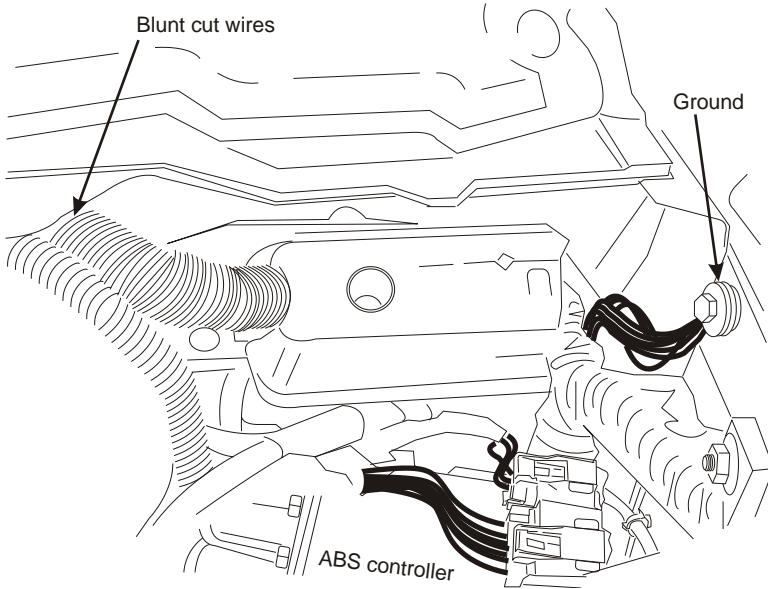

Figure 4.5
- ☐ Connect the red ignition switched 12 Volt wire from the interface harness to the pink wire with a red stripe at the blunt cut harness (Figure 4.5).